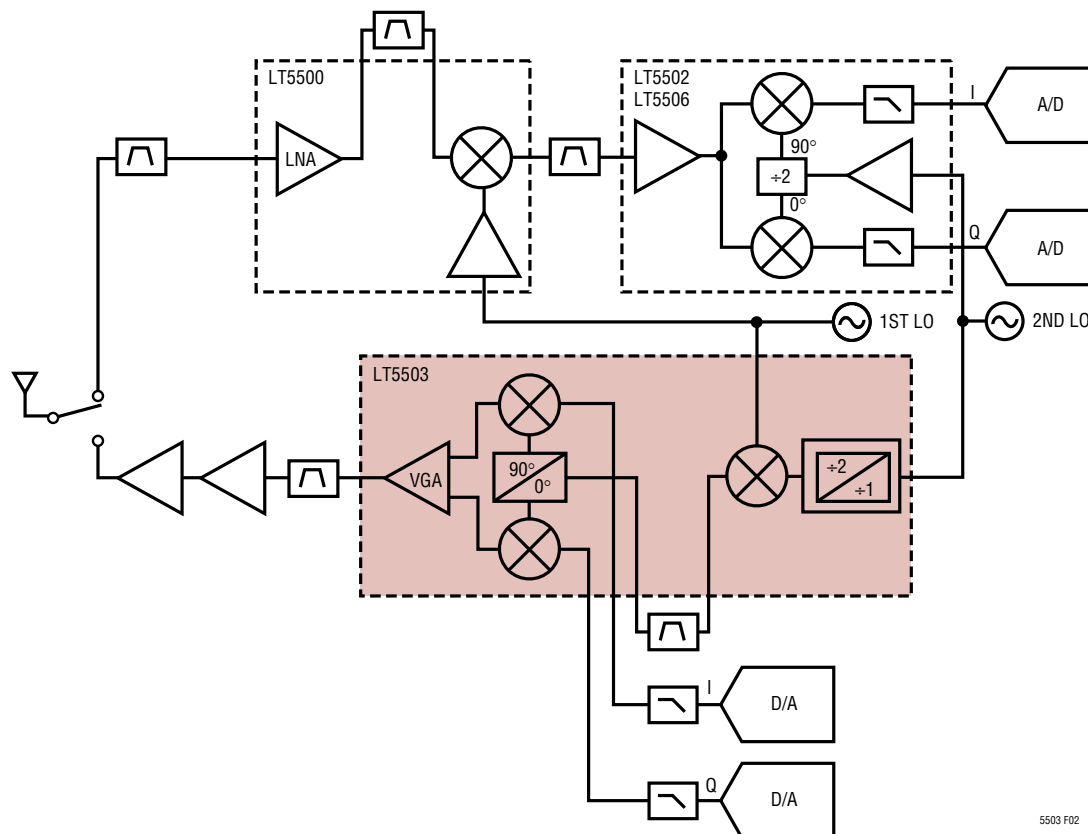

Figure 2. Example System Block Diagram for a Dual Conversion System
2.4GHz matching, MIXEN = high, DMODE = low (LO2 ÷ 2 mode), LO2IN = 750MHz at -18dBm, LO1IN = 2075MHz. MIXRFOUT measured at 2450MHz, unless otherwise noted. (Test circuit shown in Figure 2.)
$V_{CC2} = 3VDC$, MIXEN = high, DMODE = low (LO2 ÷ 2mode), $T_A = 25^\circ C$, unless otherwise noted. (Test circuit shown in Figure 2.)
A dual-conversion RF system requires two local oscillators to convert signals between the baseband and RF domains (see Figure 2). The LT5503's double-balanced mixer can be used to generate the LT5503 modulator's high frequency carrier input (MODRFIN) by mixing the systems 1st and 2nd local oscillators (LO1 and LO2). In this case, a bandpass filter is required to select the desired mixer output for the modulator input. The mixer's RF differential output produces -12dBm typically at 2.45GHz and the modulator MODIN pin requires $\geq -16\text{dBm}$, driven single-ended. This allows approximately 4dB margin for